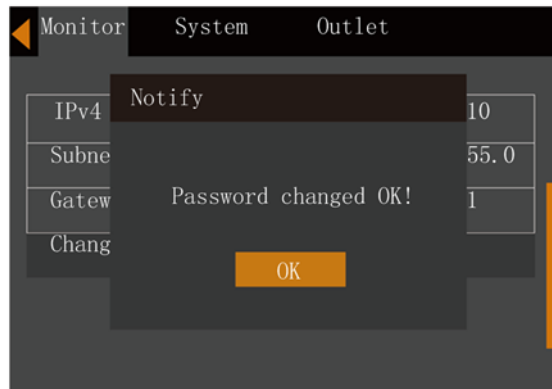

Figure 5-29 Password changed successfully
6. After the confirming the new password, press the  key; at this point a system prompt appears indicating that the password has been changed successfully, see Figure 5-29.